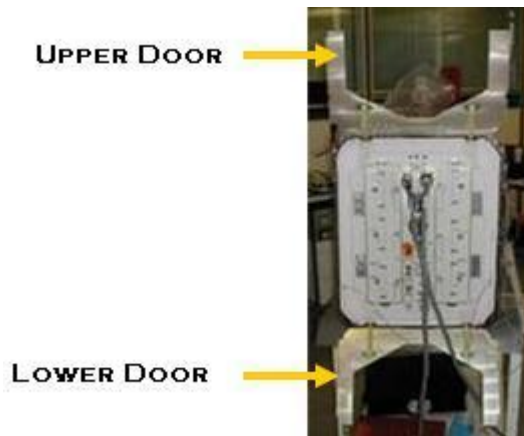

Figure 1. Double Payload Container Doors Open
7. Open the upper and lower Double Payload Container doors as shown in Figure 1.